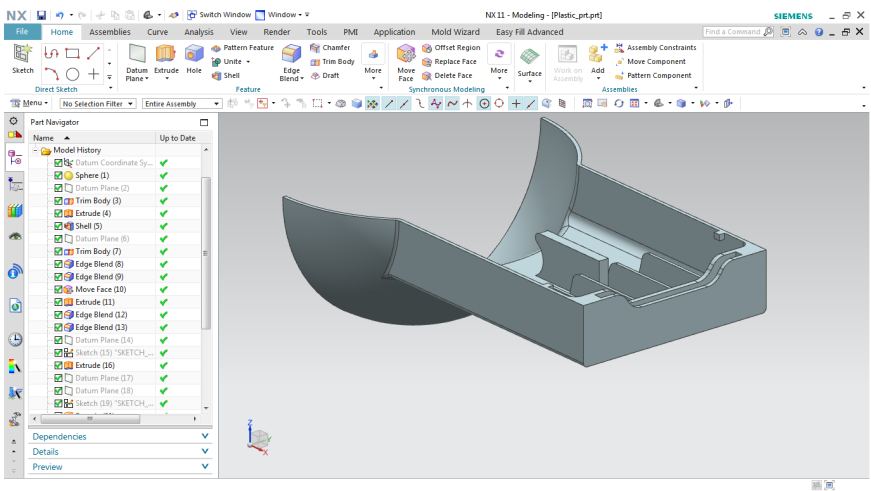

Figure 16-68 Plastic part in Modeling environment
- a. Start NX and open the model, refer to Figure 16-68.
3. Select the **Cover_Plastic_prt** from the **Name** list; **Cover_Plastic_prt** is displayed in the **File name** drop-down list. Then, choose the **OK** button; the model is displayed, refer to Figure 16-68.